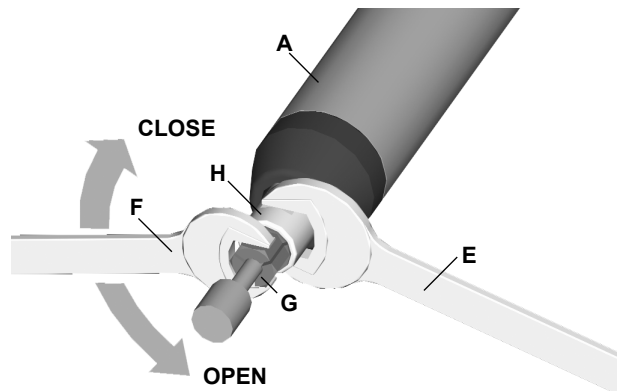

Fig. 2: Tool change R 4102 / R 4105
Using the supplied spanners (E+F), hold the spindle (H) and open or close the chuck (G) (right-hand thread) (see Abb. 2).